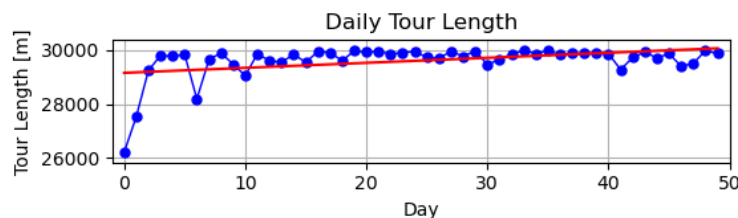

Figure 4. Plot of daily tour length over 50 working days (30 km bike range)
1. Report on the **daily tour length**, as shown below in figure 4 and 5.